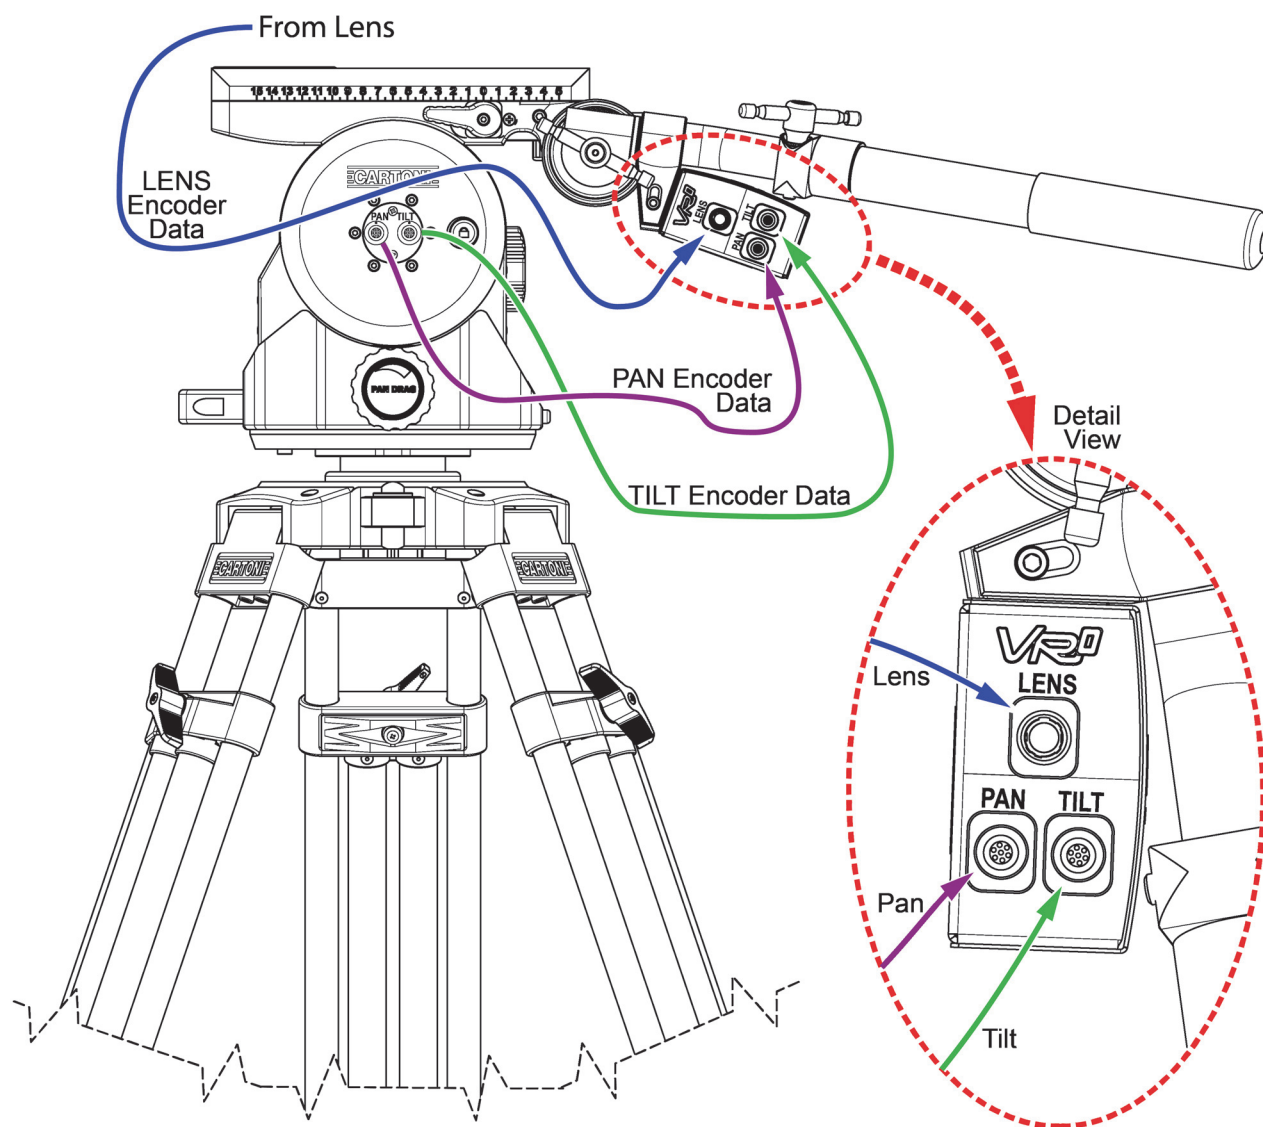

Figure 3.9 - Connecting Encoder Data Cables (PAN, TILT, and LENS)
1. Connect the encoder data cables (see **Figure 3.9**):
Tip: The **PAN** and **TILT** encoder data cables are identical. They are approximately 25" (64cm) long and each has a tag showing part number **5120CR-305-xx**. In **Figure 3.9**, the **PAN** data cable is shown as purple, and the **TILT** data cable is shown as green.
- b.** Connect the **LENS** encoder data cable from the lens to the VRzero module. In **Figure 3.9**, the **LENS** data cable is shown as blue.